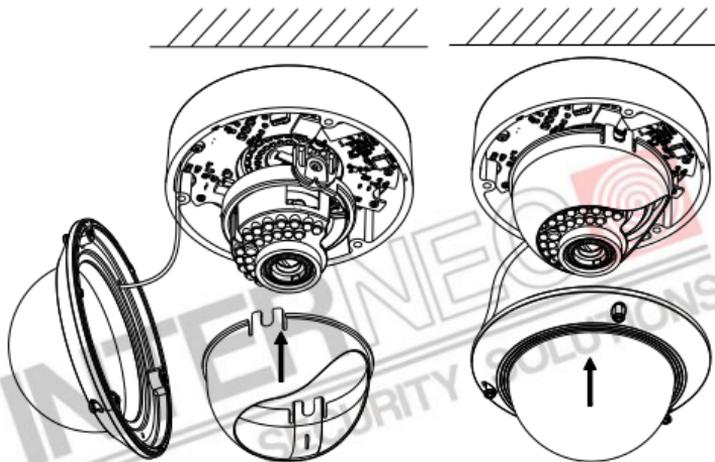

Figure 2-4 Secure Black Liner and Lower Dome
- Install the lower dome back to the camera and secure it with screws as shown in Figure 2-4.